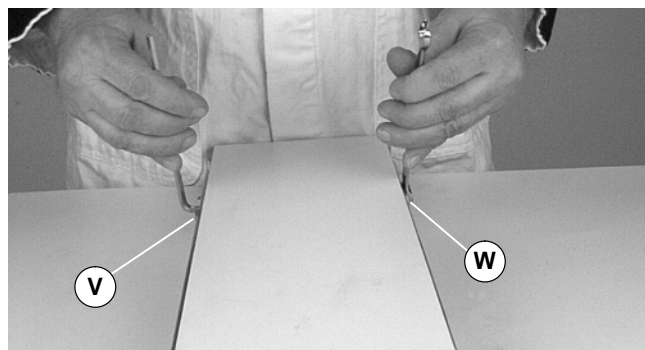

Figure 20
5. While maintaining tension on pinion gear (V of Figure 20) loosen lock screw (W). Rotate pinion gear (V) clockwise to release conveyor belt tension.
3. Loosen lock screw (W of Figure 20).